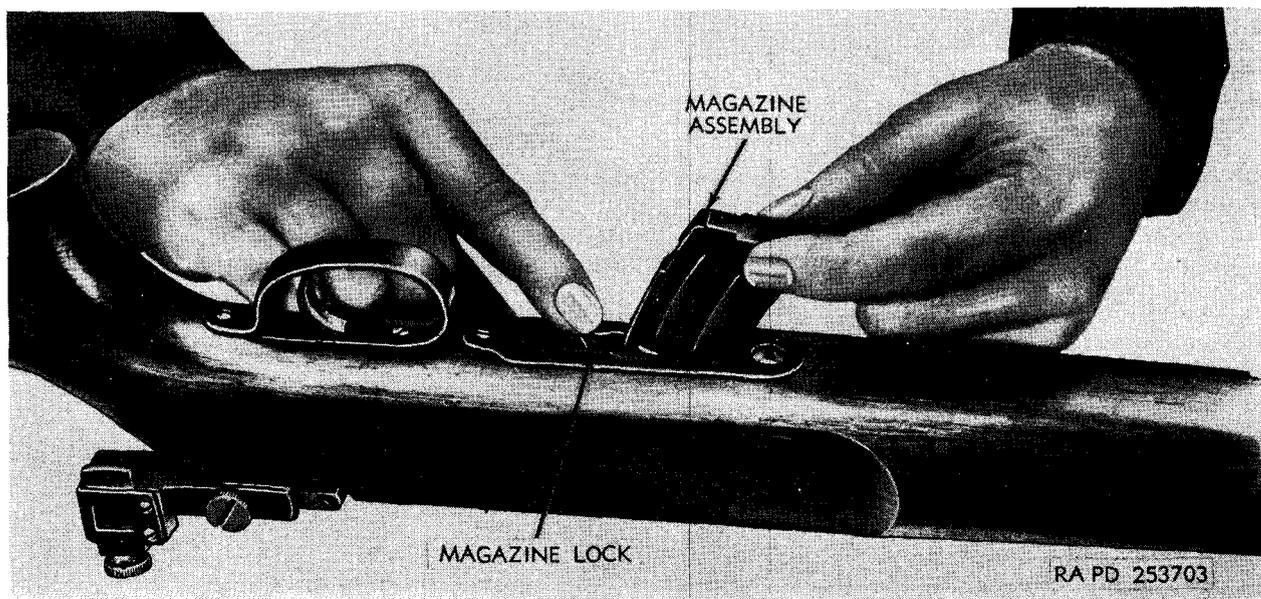

Figure 31. Removing or installing magazine assembly (Remington rifle M513T).
b. *Remove Magazine Assembly* (fig. 31). Press the magazine lock back toward the trigger and pull out the magazine assembly.
d. Install Magazine Assembly (fig. 31). Holding the convex side of the magazine assembly toward the rear, slide the magazine into its recess in the stock and receiver until it seats in its locked position.